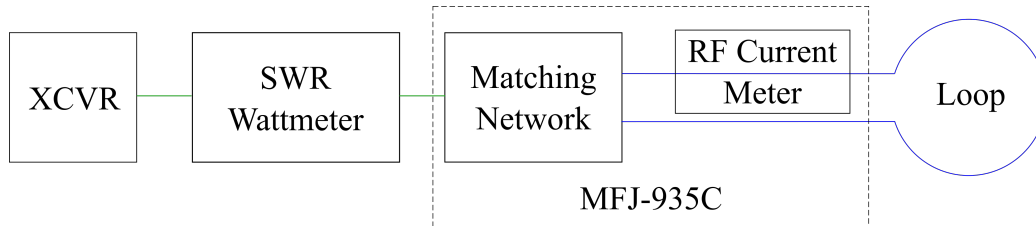

Figure 6: Typical MFJ-935C Configuration
Setting up the MFJ-935C *High-Efficiency Magnetic Loop Tuner/Antenna Current Meter*[™] (Figure 6) is simple and consists of the following components:
Step 3 Setup the MFJ-935C *High-Efficiency Magnetic Loop Tuner/Antenna Current Meter™* as illustrated in Figure 6.
Step 2 Setup the MFJ-935C *High-Efficiency Magnetic Loop Tuner/Antenna Current Meter*[™] as illustrated in Figure 6.